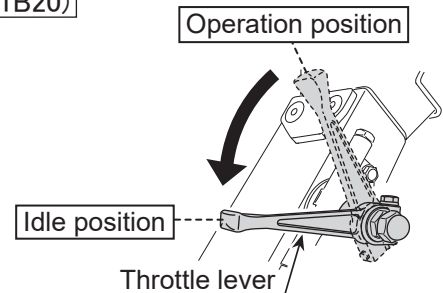

Fig.18
- 3 If you want to suspend the work, to return quickly to the idle position the throttle lever. (Fig.18)